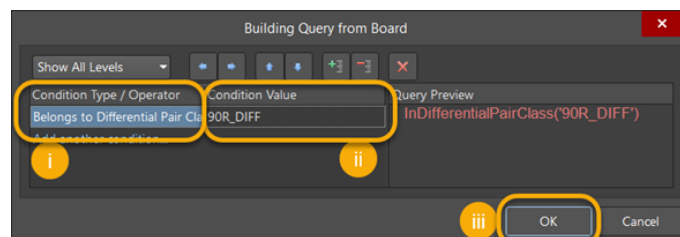

Figure 22. Building Query for the 90R\_DIFF class
- c) Select the **Ellipsis** button and choose **Open Query Builder** (Figure 22).